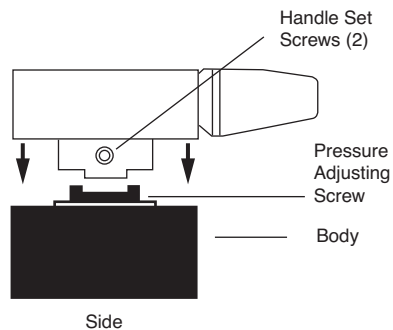

Fig. 5. Valve handle acting as wrench to adjust valve pressure adjusting screw.
Replace the handle and tighten the two set screws on the two flats of the shaft. Confirm that the handle protrusions are out of the slots in the adjusting screw before tightening the set screws. This step is important. If the handle engages the pressure adjusting screw the shaft will not rotate between LOAD and INJECT. See Figure 5.
To reassemble, refer to Figures 5, 6, and 7 and proceed as follows:
- Replace the handle and tighten the two set screws on the two flats of the shaft. Confirm that the handle protrusions are out of the slots in the body before tightening the set screws. This step is important. If the handle engages the pressure adjusting screw the shaft will not rotate between LOAD and INJECT. See Figure 5.